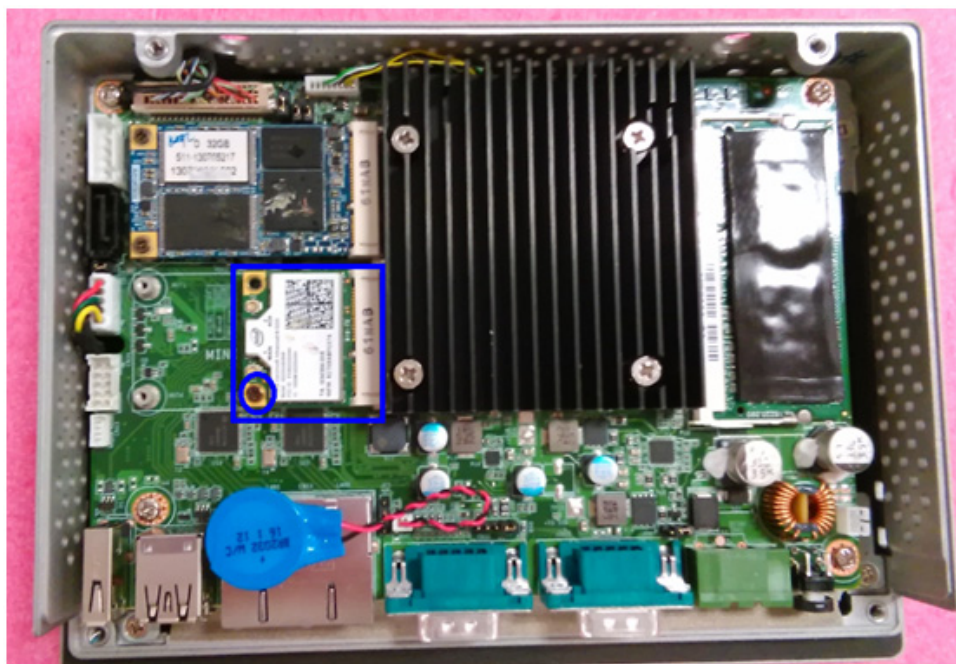

Figure 2.17 Install Half-size Wireless LAN Card
2. Insert the mini PCIe half-size card into the socket at an angle, and secure with a screw from the accessory box. (See Figure 2.17)